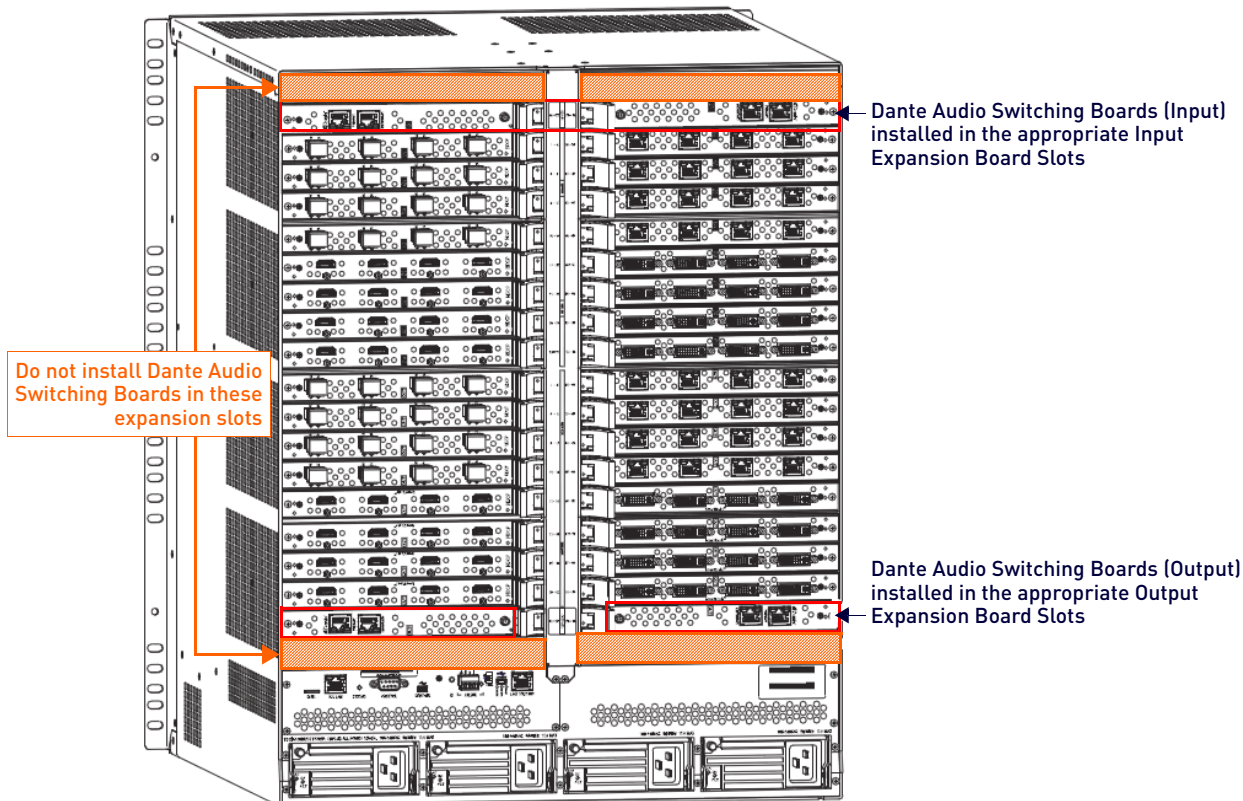

FIG. 64 Dante Audio Switching Boards - Enova DGX 6400 shown
- Dante Audio Switching Boards *must* be installed as pairs. They *will not* work unless both an input and an output board are installed in the same enclosure (if the enclosure is an **Enova DGX 6400**, two input and two output boards are required - see FIG. 64).
- Enova DGX 6400 enclosures – *Must* use two input boards and two output boards in specific expansion board slots (FIG. 64). Boards are installed horizontally. Note that Enova DGX 6400 – Dante Audio Switching Input Boards must be installed directly above standard Input Boards in left and right slots and Output Boards must be installed directly below standard Output Boards in left and right slots.